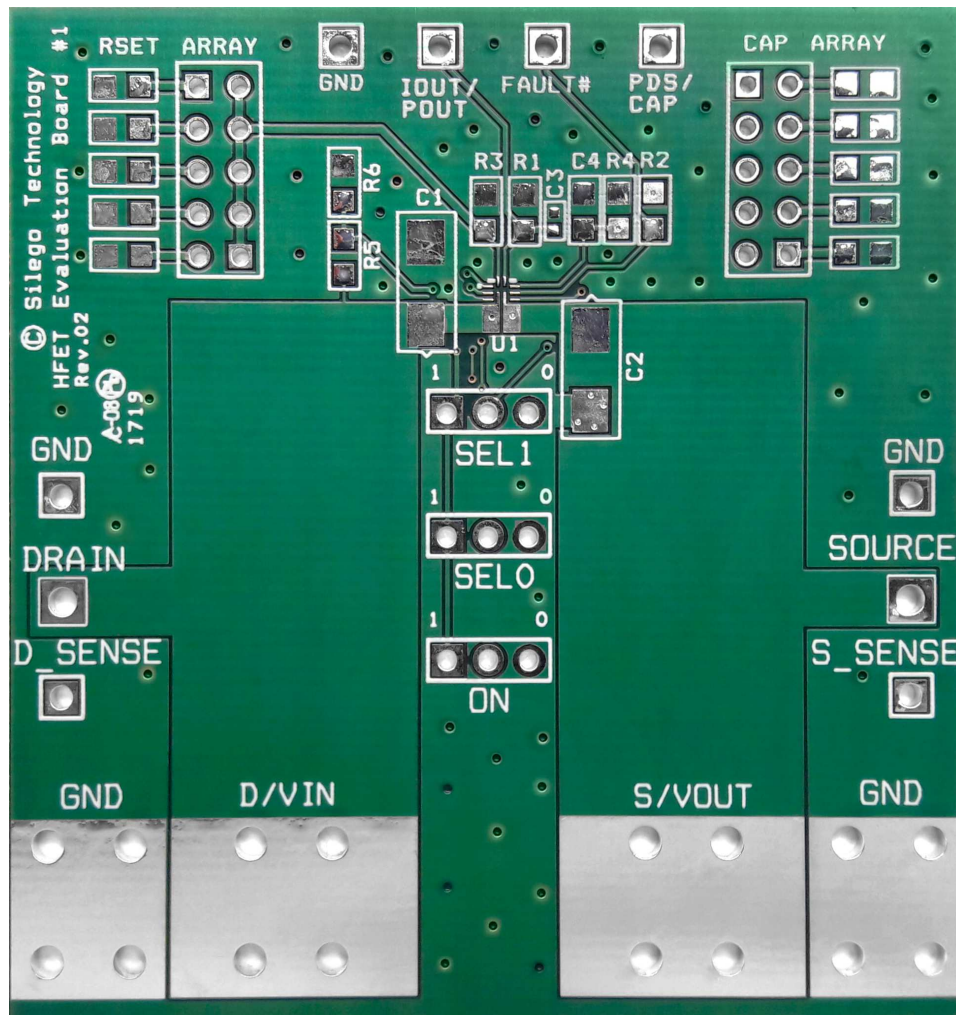

Figure 17. SLG59H1006V Evaluation Board
1. Since the VIN and VOUT pins dissipate most of the heat generated during high-load current operation, it is highly recommended to make power traces as short, direct, and wide as possible. A good practice is to make power traces with an absolute minimum widths of 15 mils (0.381 mm) per Ampere. A representative layout, shown in Figure 17, illustrates proper techniques for heat to transfer as efficiently as possible out of the device;
A High Voltage GreenFET Evaluation Board for SLG59H1006V is designed according to the statements above and is illustrated on Figure 17. Please note that evaluation board has D\_Sense and S\_Sense pads. They cannot carry high currents and dedicated only for  $R_{DS(ON)}$  evaluation.